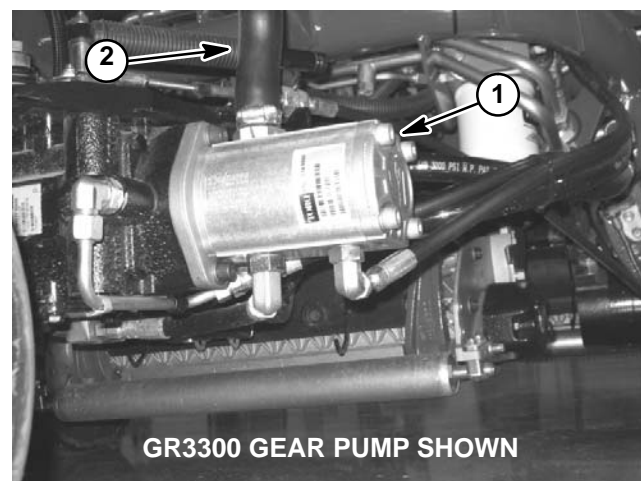

Figure 36
2. Clean area around gear pump suction (inlet) hose (Fig. 36). Clamp pump inlet hose. Remove inlet hose from gear pump, release clamp and drain reservoir into a suitable container. Drain entire hydraulic system while making sure lift cylinders, hydraulic hoses, hydraulic tubes and all other components are drained from low points while the system is warm.